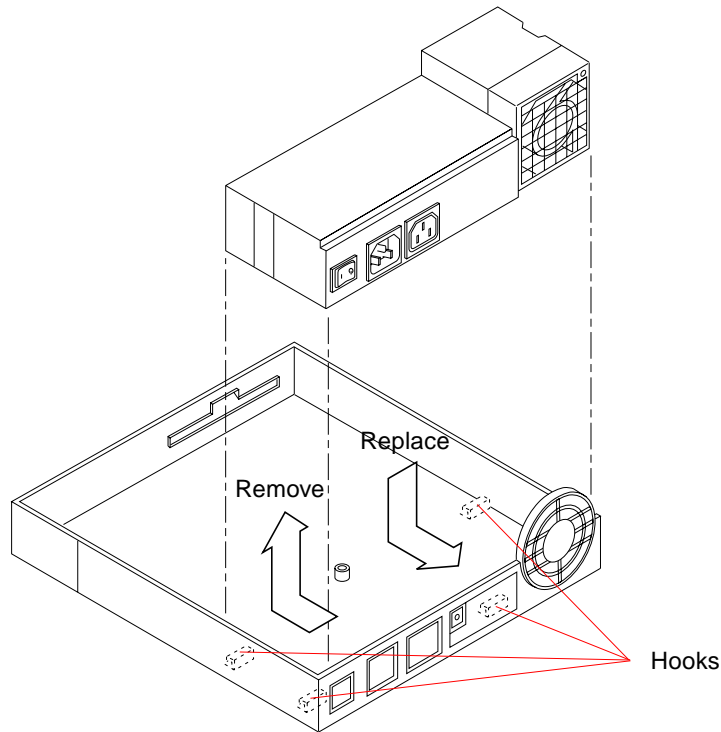

FIGURE 8-1 Removing and Replacing the Power Supply
FIGURE 8-1 shows how to remove and replace the power supply.
6. Remove the power supply (see FIGURE 8-1).
1. Align the holes in the bottom of the power supply with the hooks in the system unit top (see FIGURE 8-1).